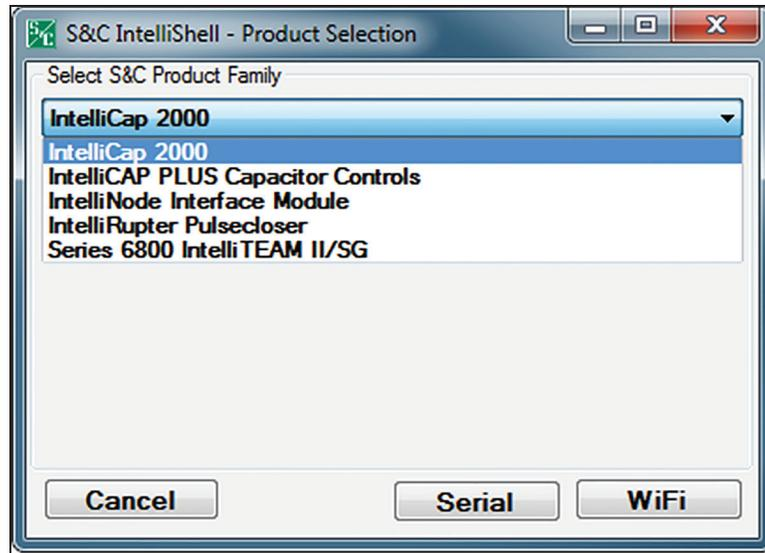

Figure 12. The IntelliShell connection program—Product Family selection dialog box.
STEP 5. Select the **IntelliCap 2000** option from the **Product Family** menu, and select either the **Serial** or the **Wi-Fi** button. See Figure 12 on page 43.